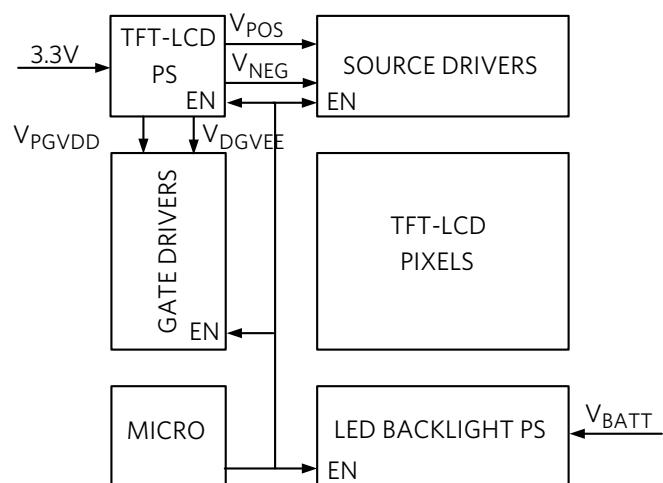

Figure 2. TFT-LCD Display Block Diagram
Figure 2 shows the main elements of the TFT-LCD display power system. A power-supply (PS) block, TFT-LCD PS, powers the source and gate drivers with all the power sequencing driven by a microcontroller.